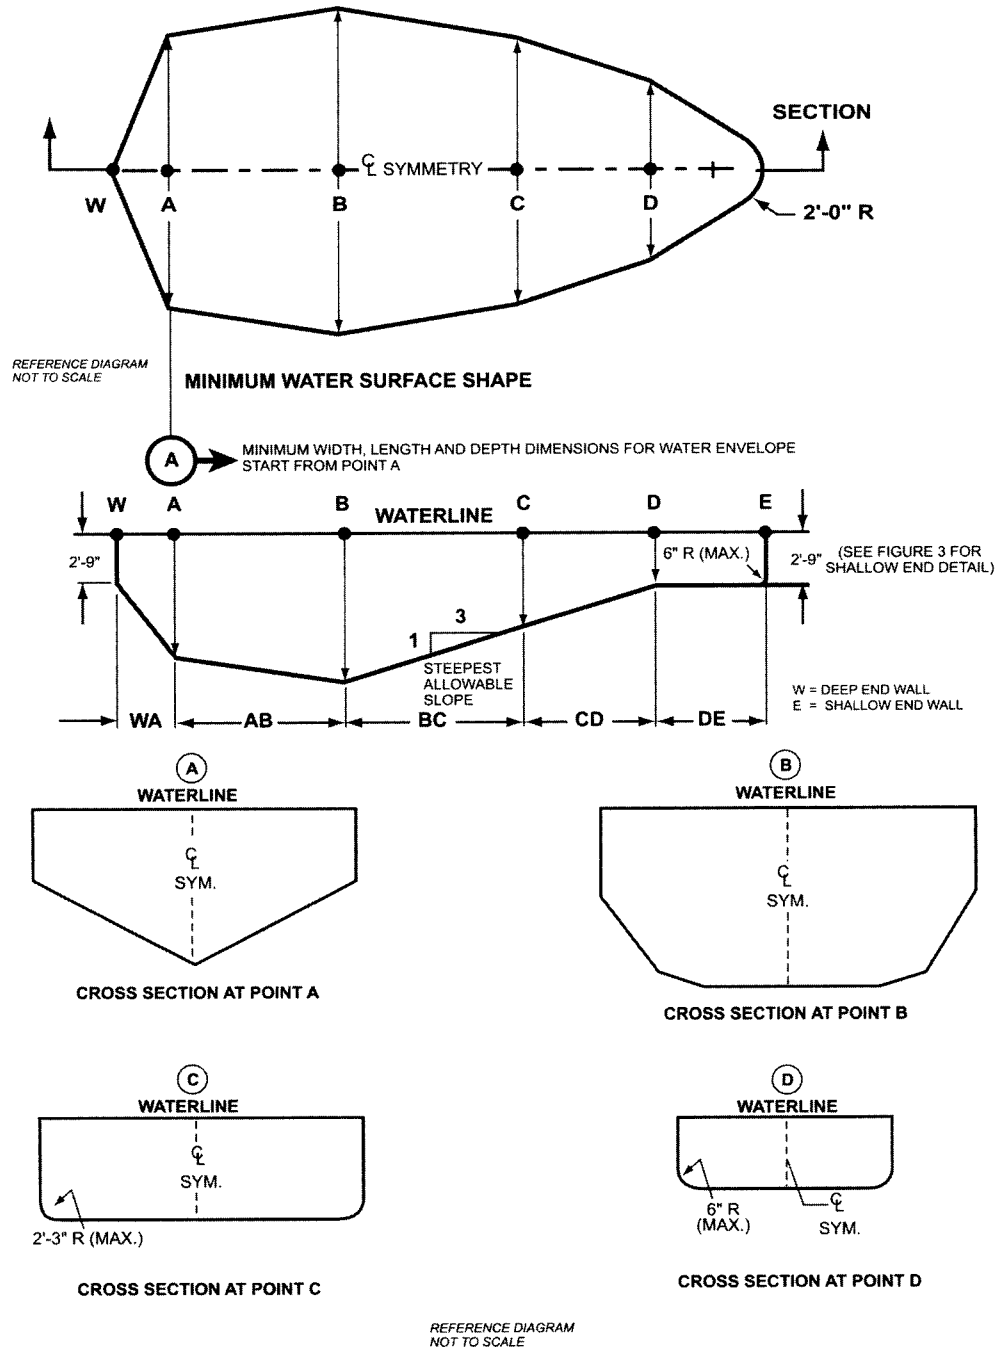

Figure 3 – Minimum water envelope
5.3.3 The walls of Type I pool, when defining the minimum diving water envelope, shall be plumb or outside of Type 1 water geometry. (See figure 3, table 1.)
- Figure 3 drawings are not to scale. (For pool types, see Glossary.)
5.8.2.1 Diving equipment installation and use instructions shall be provided by the diving equipment manufacturer and shall specify the minimum water dimensions required for each diving board and diving stand combination. They may refer to the water envelopes type of their choice by dimensionally relating their products to Point A on the water envelopes as shown in figure 3 and table 1, 5.9.1 through 5.9.3.
5.9 Figure 3 contains suggested drawings and diagrams for minimum water envelope for swimming pools designated type I - V. Individual pool types are shown in figure 3 and table 1.
5.9.1.2 Point A as shown in figure 3 and table 1 shall be the reference point of origin for all dimensions defining the minimum water envelope.